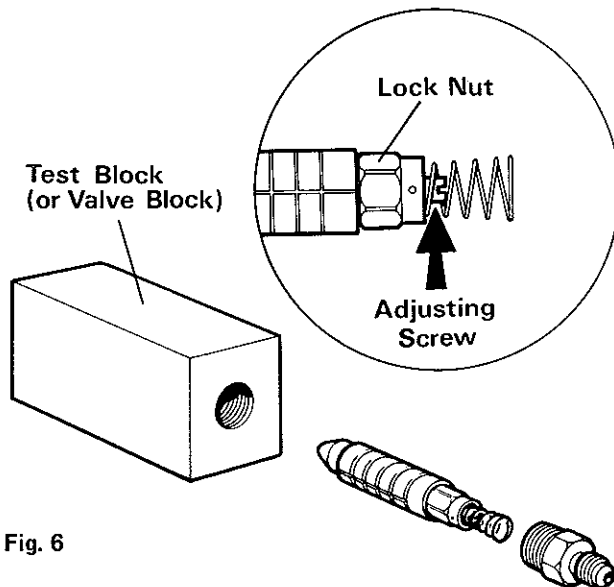

Fig. 6
41. **SLRV test block. Fit.** Fit the SLRV in the test block (fig. 6), and connect the hose to the block.
44. **SLRV. Adjust.** (fig. 6) If the pressure gauge reading is not within tolerance, adjust as follows: